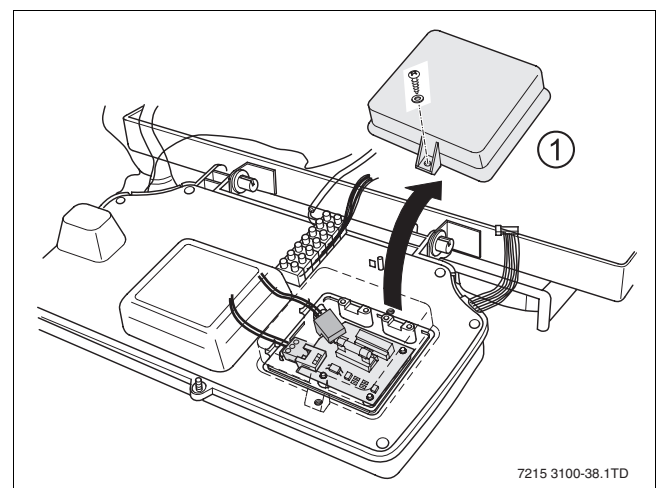

Fig. 38 Room thermostat connection on DBA
- Using a screwdriver, remove the grey 230V cover (→ fig. 38, item 1).